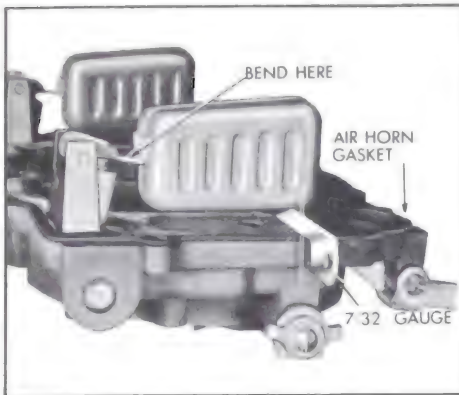

Figure 3-82—Checking Float Level
10. Adjust Float Level. With air horn inverted and air horn gasket in place, check clearance between each float (at outer end) and air horn gasket using 7/32" gauge or a 7/32" drill. See Figure 3-82. To adjust, bend float lever. After